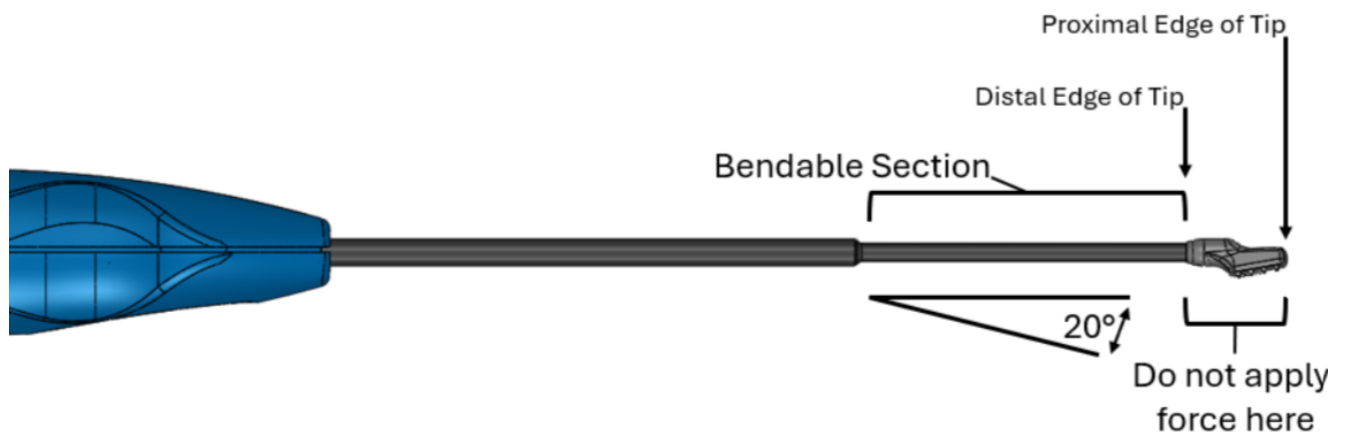

Figure 6: Bending Diagram
16. Use the diagram below (see Figure 6) for the bend angle range.